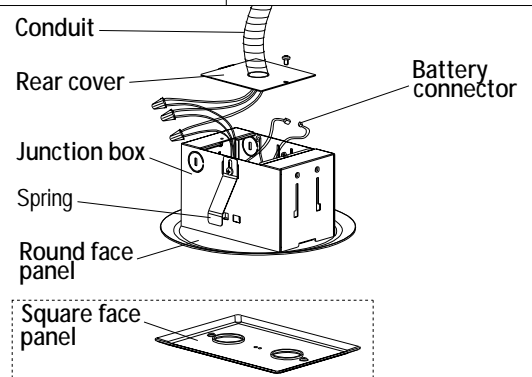

Fig. 7
2. Use a screwdriver to remove the rear cover, then install flexible conduit with the AC supply cable through the rear cover (refer to Fig. 7).
4. Secure the rear cover using M4*5 screws (refer to Fig. 7).